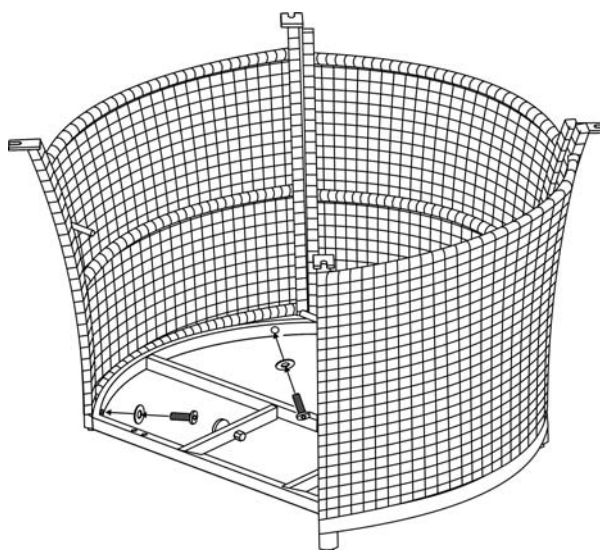

Figure 4
3. Attach the middle support to side panels by using six 1/4"x30 mm bolts and Ø6.5X1.0 mm washers as shown in Figure 4. Guide bolts through holes in middle support, into pre-drilled holes in the side panels. **Hand tighten only.**